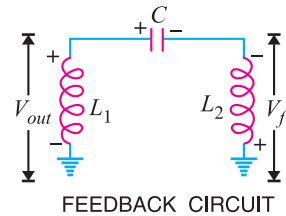

Fig. 14.14
Circuit operation. When the circuit is turned on, the capacitor is charged. When this capacitor is fully charged, it discharges through coils L_1 and L_2 setting up oscillations of frequency determined by *exp. (i). The output voltage of the amplifier appears across L_1 and feedback voltage across L_2 . The voltage across L_2 is 180° out of phase with the voltage developed across L_1 (V_{out}) as shown in Fig. 14.14. It is easy to see that voltage feedback (i.e., voltage across L_2) to the transistor provides positive feedback. A phase shift of 180° is produced by the transistor and a further phase shift of 180° is produced by $L_1 - L_2$ voltage divider. In this way, feedback is properly phased to produce continuous undamped oscillations.
* Referring to Fig. 14.14, it is clear that L_1 and L_2 are in series. Therefore, total inductance L_T is given by : $L_T = L_1 + L_2 + 2M$
** Referring to Fig. 14.14, the circulating current for the two inductors is the same. Further, inductive reactance is directly proportional to inductance.